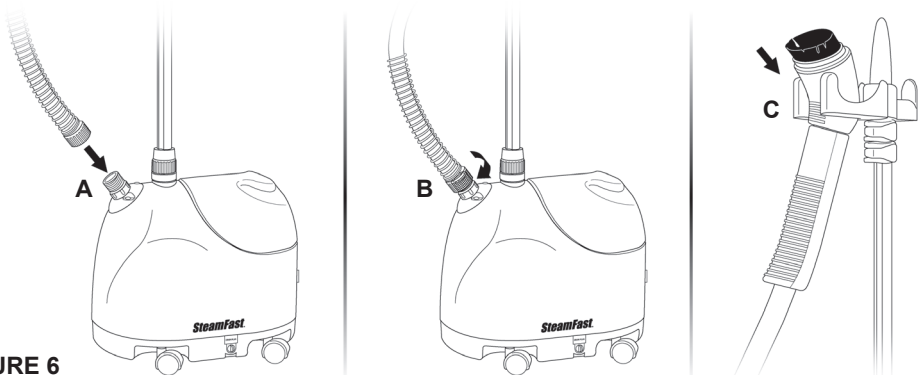

FIGURE 6
1. Place end of Hose onto threaded Hose Base (FIGURE 6-A).
2. Rotate coupling in clockwise direction until Hose is tightly secured onto Hose Base (FIGURE 6-B). Hand tighten only. Do not over-tighten.
3. Hang Steam Nozzle on specially designed Steam Nozzle Holder (FIGURE 6-C).